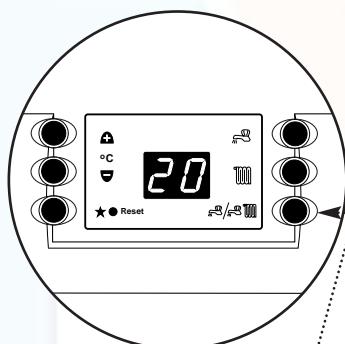
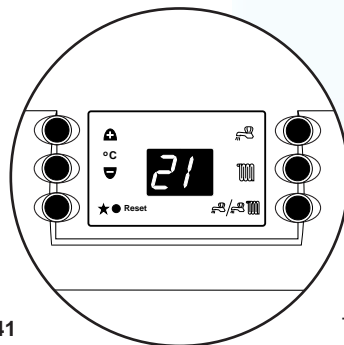

Fig. 40
Fig. 41
6. Press the Summer/Winter Mode Button marked () and the display will show "20" (Fig. 40). The "2" indicates that the installer parameter for pre-heat has been selected. The "0" indicates that the pre-heat is switched off. Press the "+" Temperature Control Button to change this to "21" (Fig. 41), with the "1" indicating that the pre-heat is switched on. 1 minute after the parameter has been set the display will revert to normal operation.